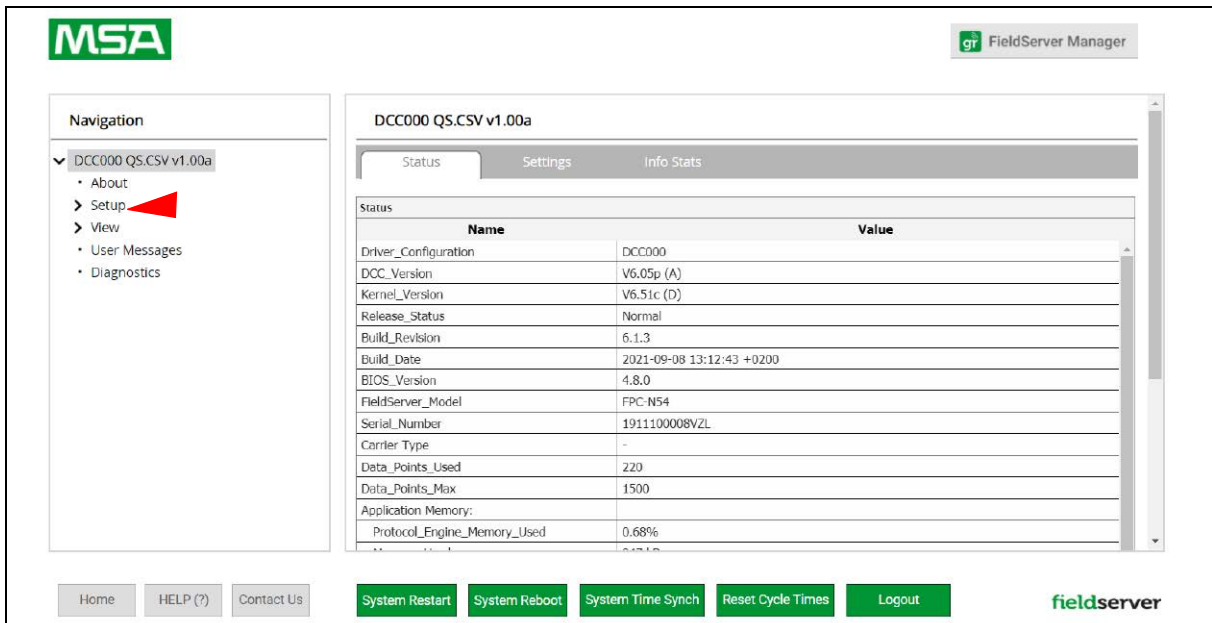

Figure 28. FS-GUI Page
- From the FS-GUI page, click **Setup** in the Navigation panel (see Figure 28).
- From the FS-GUI page, click **Setup** (see Figure 28) in the Navigation panel.